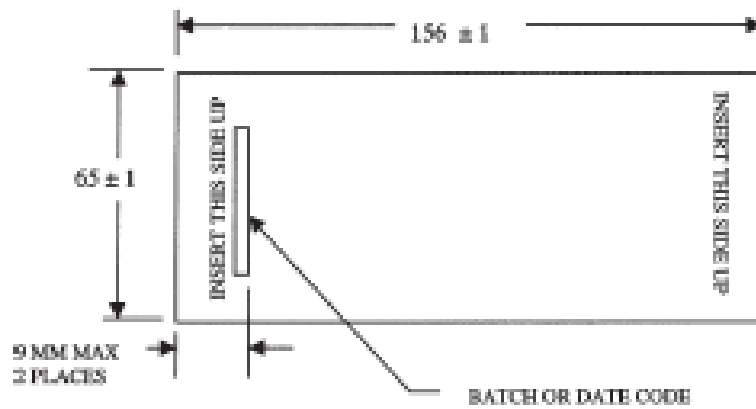

FIGURE 1
- 5.1 Ticket shall have the text: “INSERT THIS SIDE UP” preprinted in heat resistant black ink along the 65 mm edge as show in Figure 1. Font size shall be 12 pt.
- 5.2 Lot code, date code or other information identifying the printing date or batch number shall be printed in heat resistant black ink along one of the 65 mm edges as shown in Figure 1. An arrow or other symbol indicating paper grain orientation shall also be included. Font size shall be 4 pt.